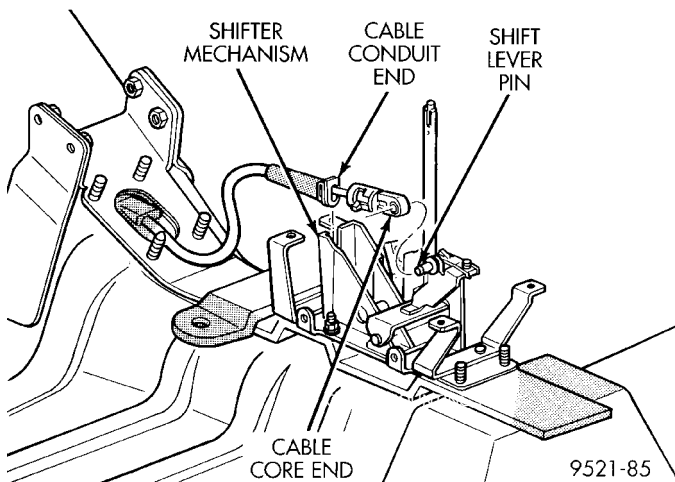
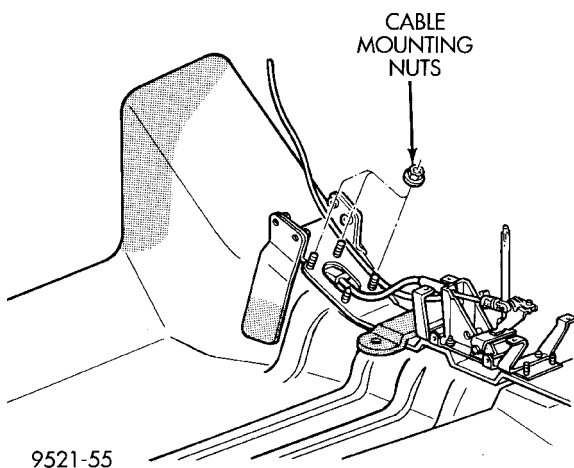

Fig. 10 Gearshift Cable
Fig. 11 Cable Mounting
(12) Using a flat-blade pry tool, remove the shifter cable core end from the shift lever pin (Fig. 10).
(13) Using a small screwdriver, pry the cable conduit end tabs away from the shifter mechanism. Pull up on the conduit end and slide the end out of the gearshift mechanism.
(14) Remove the three nuts retaining the shift cable grommet plate to the floor pan (Fig. 11).